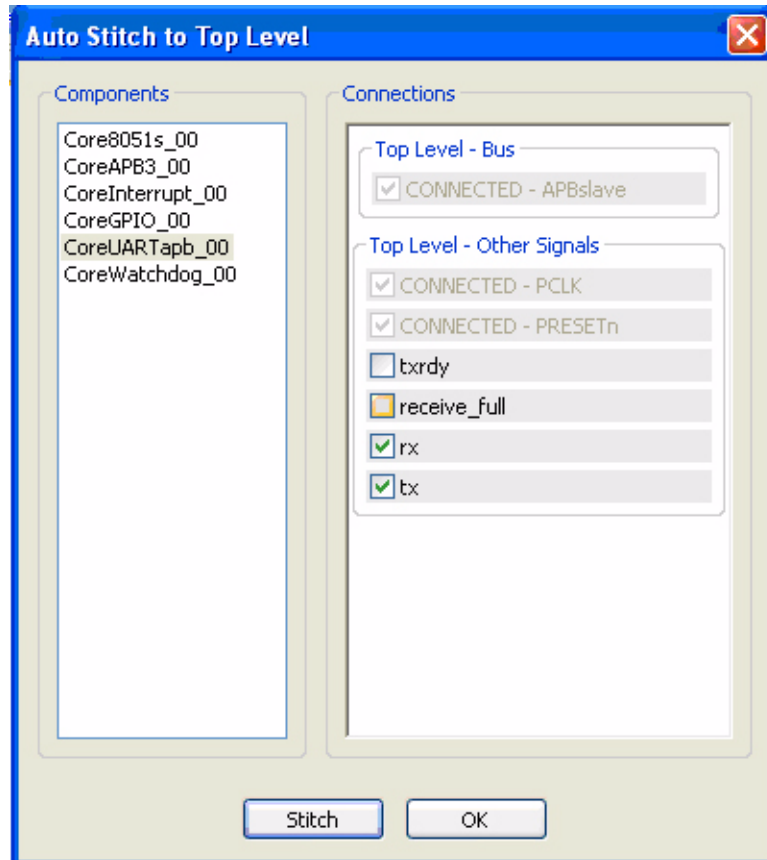

Figure 3-4. Example CoreUARTapb Component
7. Auto stitch the other components in the following fashion. Select the **CoreUARTapb** component in the open window. Clear the **txrdy** and **receive_full** check boxes. These do not need to be connected to the top level for this example. Click **Stitch** when ready. See Figure 3-4.